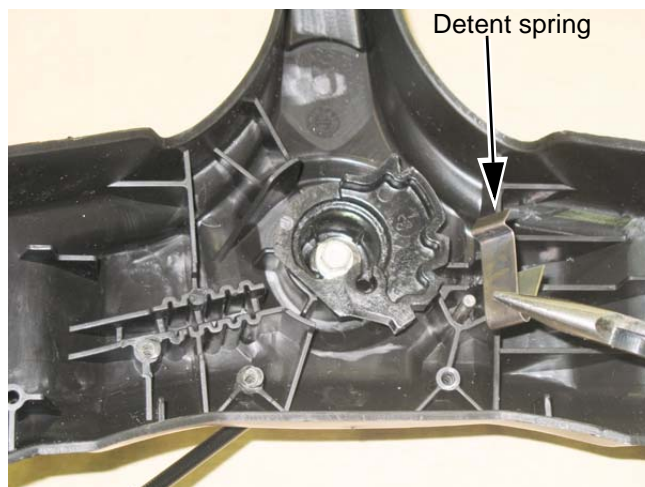

Figure 5.12
- 10b. Remove the detent spring: See Figure 5.12.